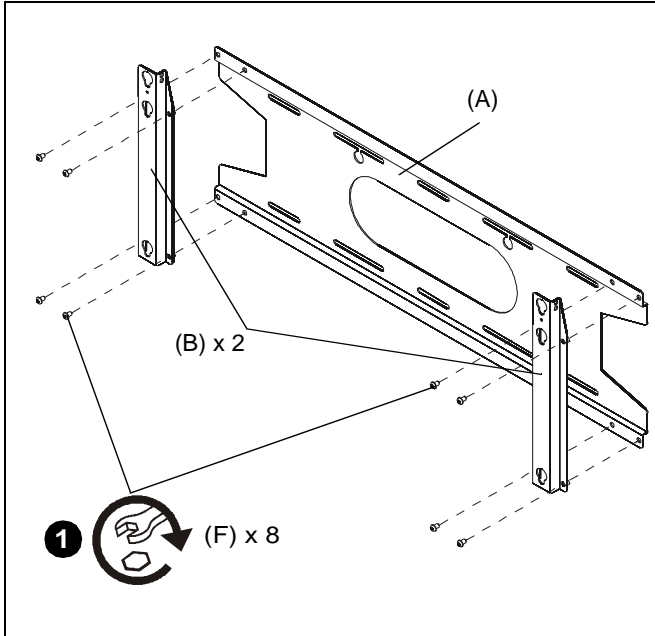

Figure 1
1. Attach two vertical brackets (B) to cross bracket (A) using eight 5/16-20 x 1/2" hex head screws (F). (See Figure 1)